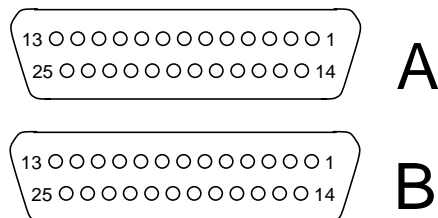

FIGURE 1-2 DB-25 Serial Connectors
- FIGURE 1-2 DB-25 Serial Connectors 1-2